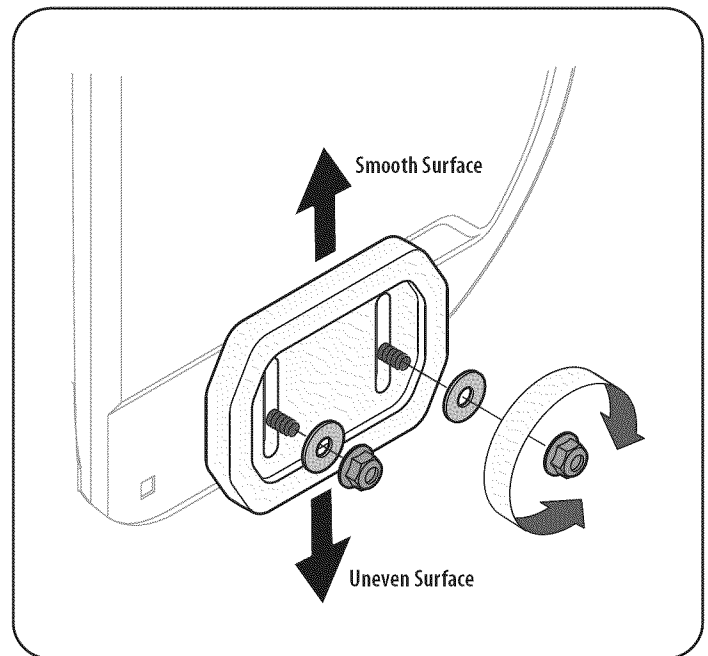

Figure 8
- For close snow removal on a smooth surface, raise skid shoes higher on the auger housing. Refer to Figure 8.
1. Loosen the four hex nuts (two on each side) and carriage bolts. Move skid shoes to desired position. See Figure 8.